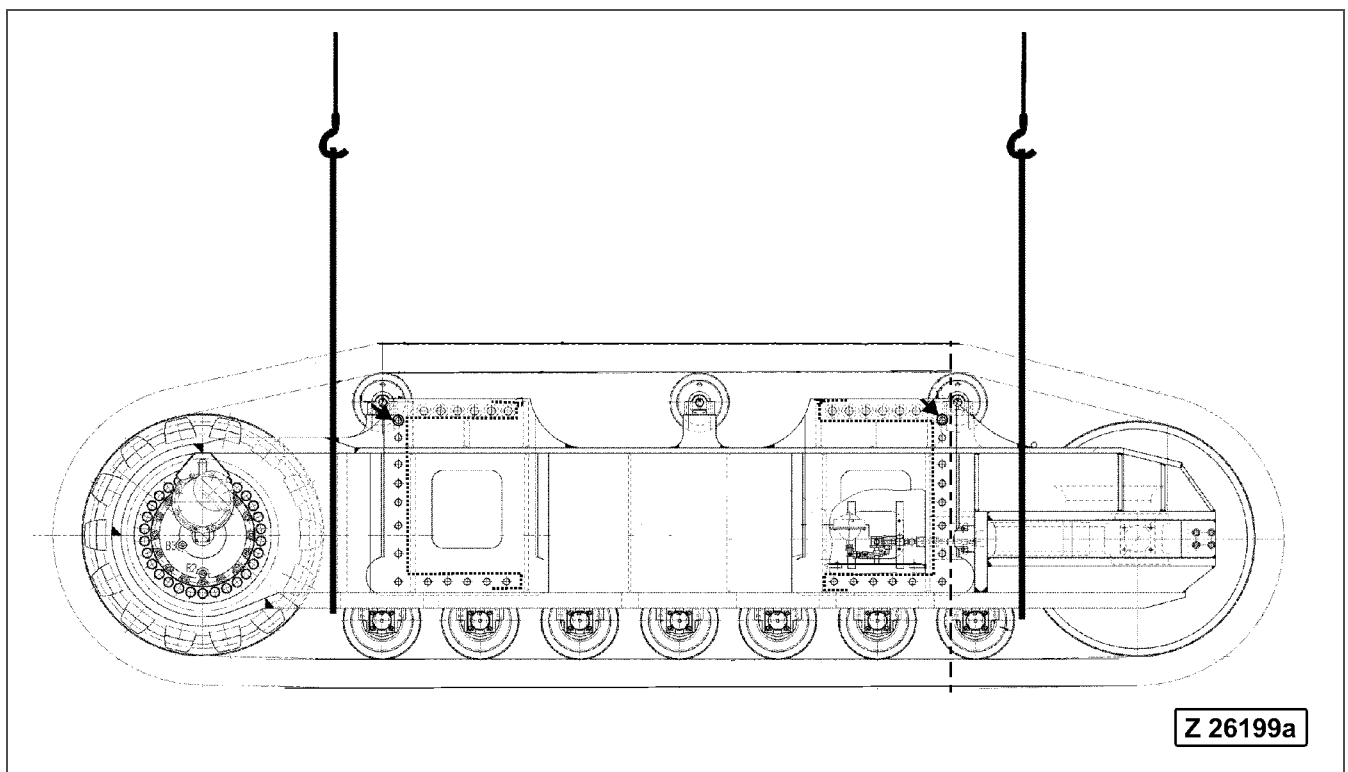

Fig. 4-80 Crawler carriers attached to cranes
- Lift the left crawler carrier with two cranes (Fig. 4-80) and align it with the car body.